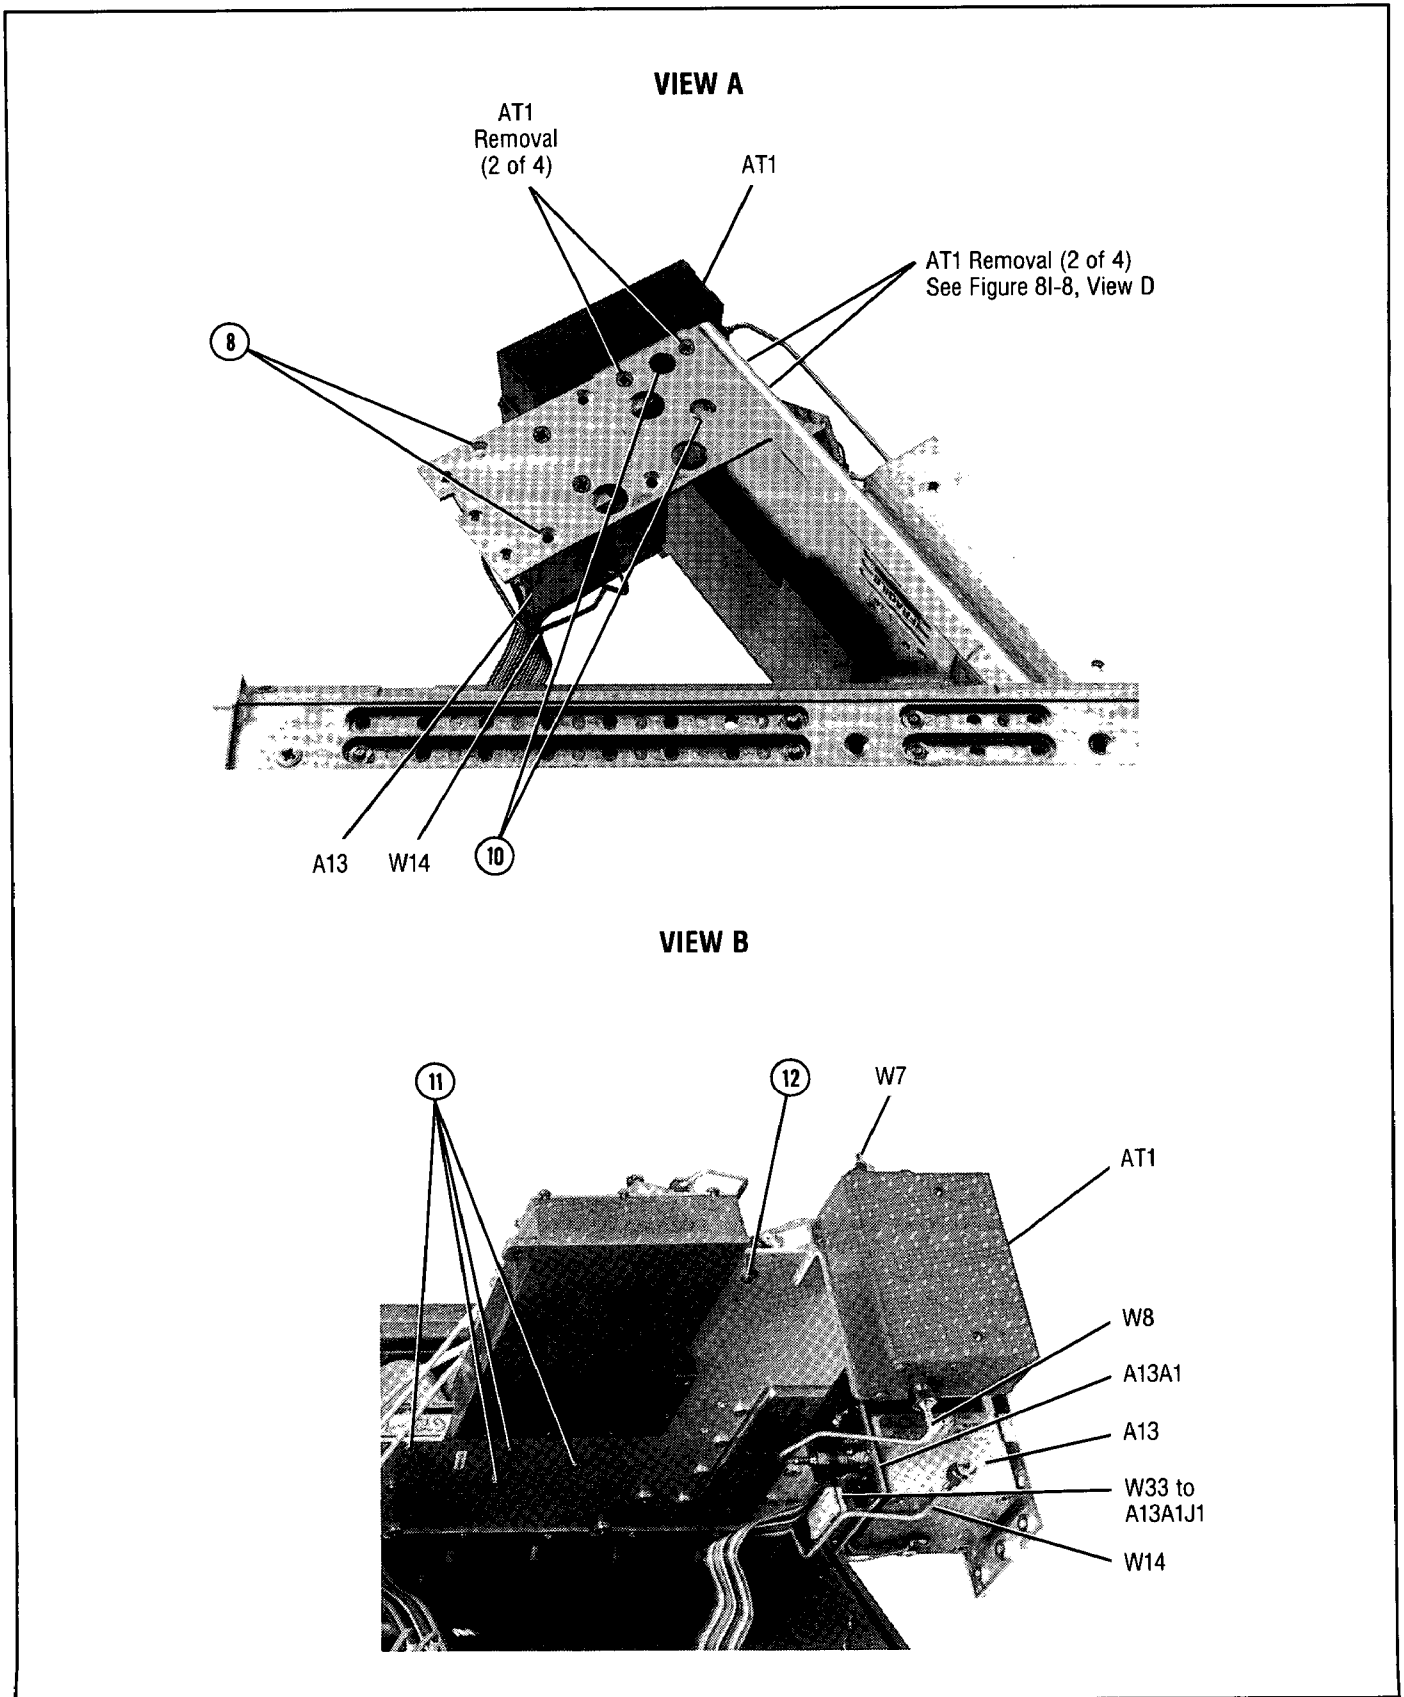

Figure 8I-9. A13, A13A1, A16, A18, and AT1, Assemblies, Cables, and Mounting Hardware Location
Refer to Figure 8I-8, "RF Assemblies, Cables, Mounting Hardware Location", View D, for related assemblies, cables, and mounting hardware location. Refer to the "HINGED RF DECK ACCESS PROCEDURE".
Remove the four screws shown in Figure 8I-8, View D. When removing the last screw, hold the AT1 assembly. Make sure W7 and W8 are clear of AT1J1 and AT1J2 when removing the AT1 assembly.
Refer to Figure 8I-8, "RF Assemblies, Cables, Mounting Hardware Location".
Refer to Figure 8I-8, "RF Assemblies, Cables, Mounting Hardware Location", and Figure 8I-9, "A13, A16, A18, A18A2, and AT1 Assembly, Cable, Mounting Hardware Location".
Using an offset posidrive, remove the five A16 mounting screws on the back of the RF Deck. Refer to item 11, Figure 8I-9, View B.